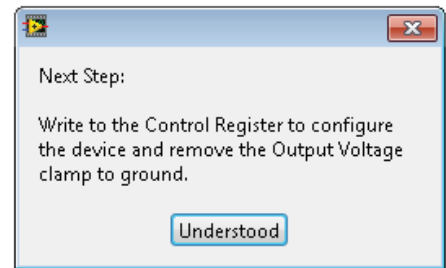
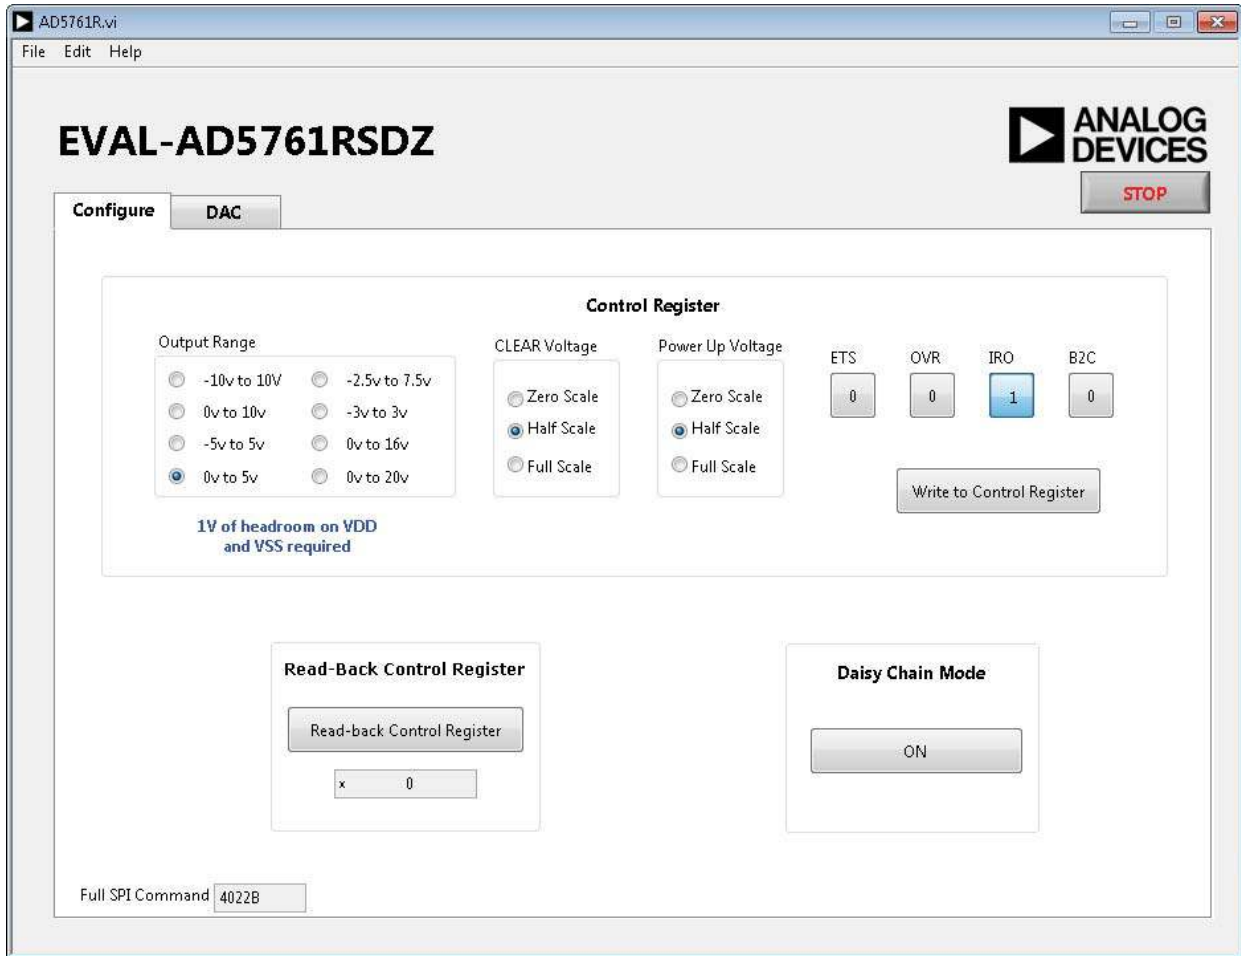

Figure 6. First Write Reminder
Figure 7. Evaluation Software Main Window, **Configure** Tab
1. From the **Start** menu, click **Analog Devices > AD5761R > AD5761R Evaluation Software**. The main window of the software opens (see Figure 7).
The **Configure** tab allows access to the control register and the mode of the daisy-chain functionality of the device. Figure 7 shows the **Configure** tab in the main window.
The AD5761R requires an initial command to write to the control register to remove the output clamp to ground. A dialog box appears as a reminder to write to the control register (see Figure 6). During the same write, configure the AD5761R as necessary to modify the default values for the power-up voltage (**Power Up Voltage**), voltage output range (**Output Range**), clear voltage (**CLEAR Voltage**), overrange (**OVR**), bipolar range coding (**B2C**), thermal shutdown alter (**ETS**), and internal reference mode (**IRO**). (See Figure 7.)